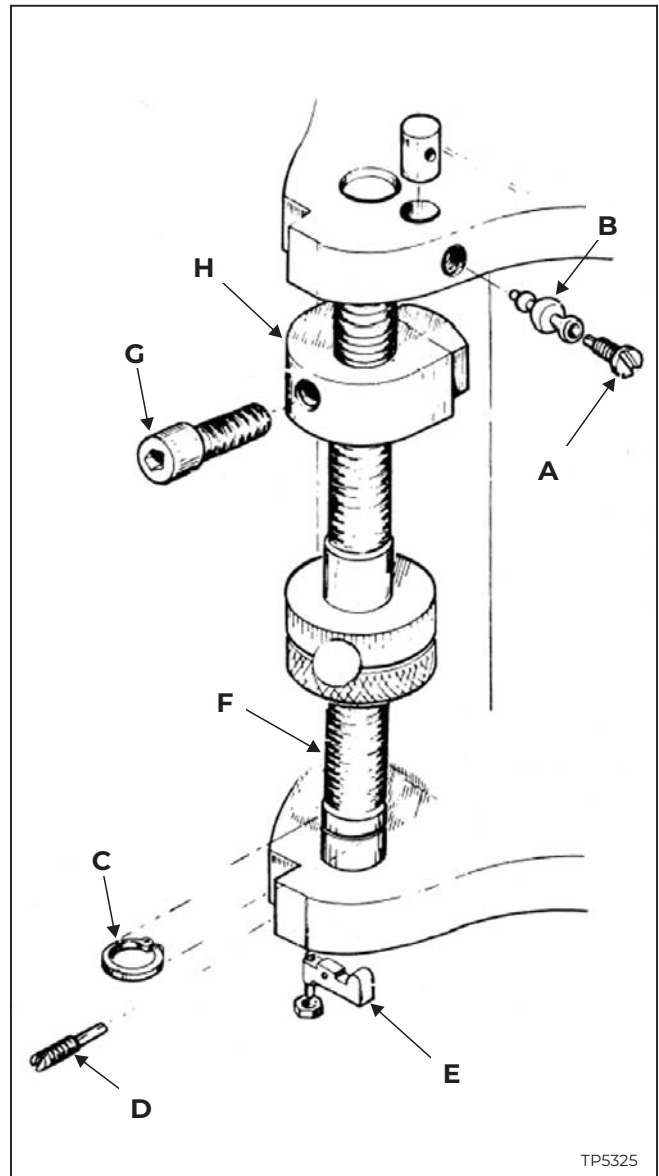

Figure 3.6 - Micro Feed Trip Assembly and Quill Removal
1. Remove screw "A" and ball reverse lever "B", Figure 3.6.